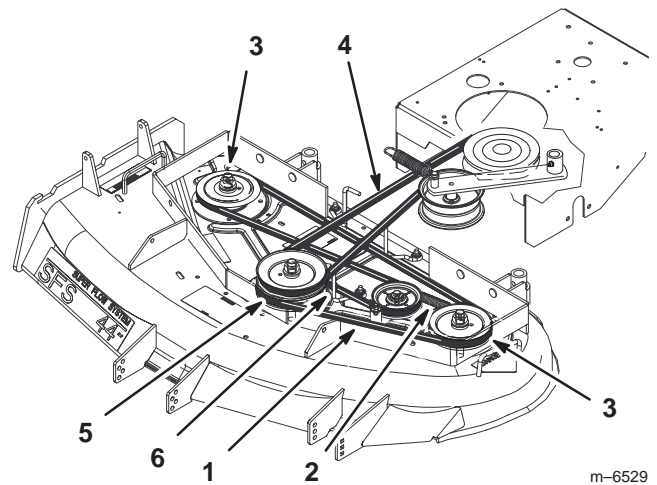

Figure 62
5. Disconnect the idler arm spring to relieve tension on the idler arm and idler pulley, then remove the worn deck belt (Fig. 62).
6. Install the new deck belt around the two outside spindle pulleys, the idler pulley, and in the lower groove of the center spindle pulley (Fig. 62).
7. Connect the idler arm spring (Fig. 62).
9. Adjust deck belt guide an 1/8 inch (3 mm) from belt (Fig. 62).